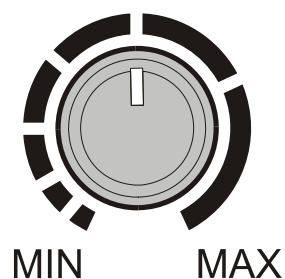

Figure.13
- Set the DISCRIMINATION to about “12:00” position (Figure.13). Adjust the balance to let the detector sound a hum tone, and the show is “0”